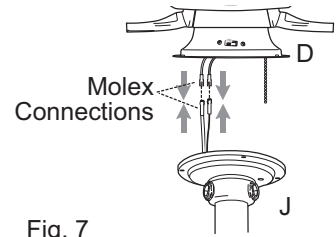

Fig. 7
7. Connect **BLUE** wire from switch housing (D) to **BLACK** wire from light kit fitter (J). Connect **WHITE** wire from switch housing (D) to **WHITE** wire from light kit fitter (J). Be sure molex connections snap together securely. [Fig. 7]